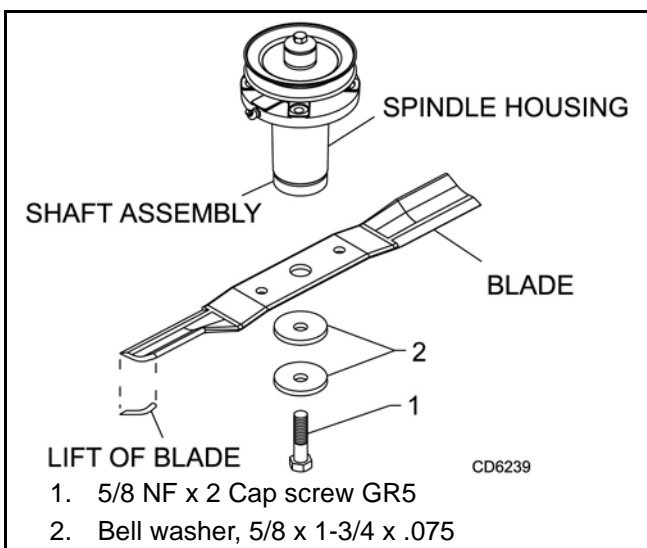

Figure 11. Blade and Spindle Assembly
1. Remove bolt (1), Figure 11, which has right hand threads.
■ When installing blade, the lift of the blade must be toward the spindle blade housing as shown in Figure 11. Torque bolt (1) into shaft assembly to 100 lbs-ft.
2. Place bell washer (2) over blade and insert blade bolt (1). Torque blade bolt to 100 lbs-ft.